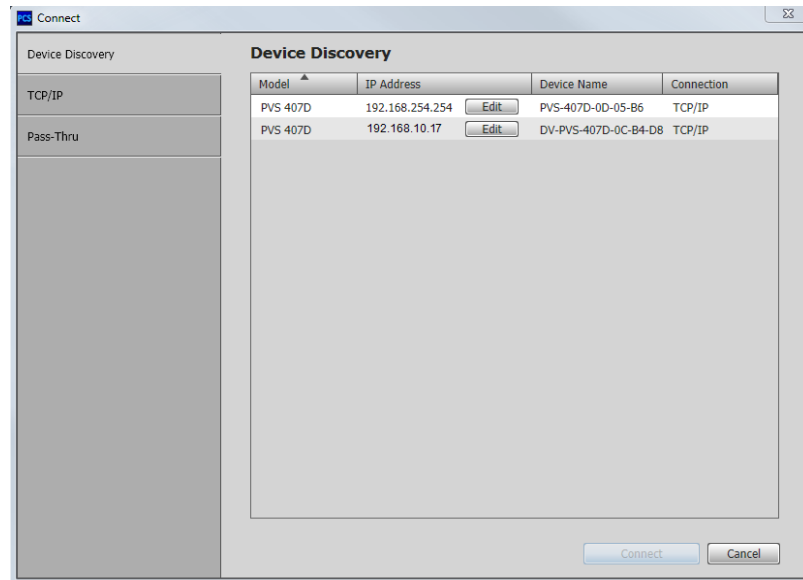

Figure 22. Connect Dialog Box
- **For a USB or TCP/IP connection**, select a listed device (see figure 22).